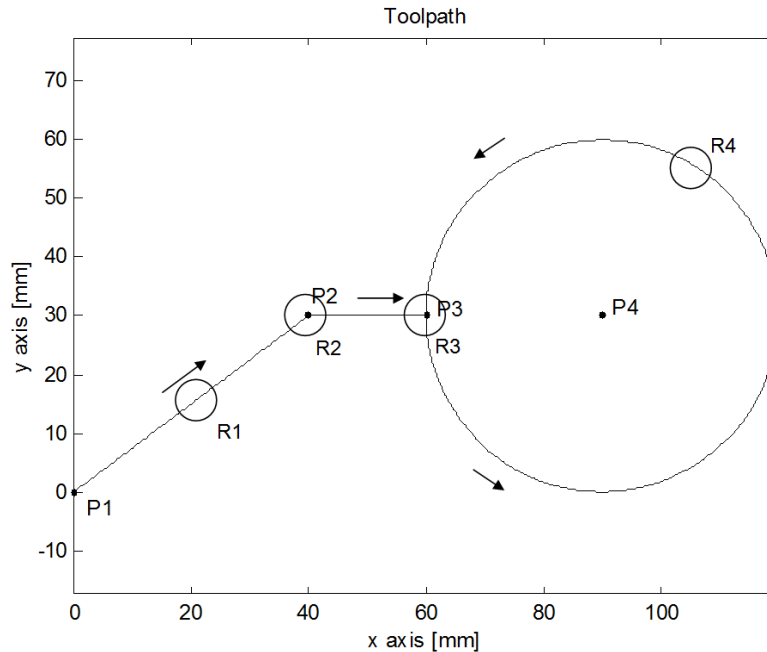

Figure 1: Reference toolpath to be used in contouring performance evaluation.
A sample toolpath is shown in Figure 1, comprising of two linear segments and a full circle. The coordinates of the segment end points are P1(0,0) [mm], P2(40,30) [mm], and P3(60,30) [mm]. The center of the circle is P4(90,30) [mm]. Read the entire handout before starting to work on the prelab.
For the line-circle trajectory (Figure 1), carry out the following analyses. Merge figures where possible, and keep corresponding plots together. Do not provide plots of the entire toolpath or axis commands since no useful details can be observed. Include zoomed-in sections, as requested in the following questions. You can write the names (and draw arrows) by pen on the printed lab report to mark different overlaid graphs.
**E.2.** Plot the simulated tool motion ( $x$  vs.  $y$ ) for the three cases of control system (part B.1) on top of the reference toolpath (all in one plot). Zoom into the critical regions R1, R2, R3, and R4 shown with circles in Figure 1. Approximately measure the largest value of the predicted contour error, and comment on the effect of bandwidth on contouring accuracy. Note that contouring error is defined for the toolpath (and not axes) and determined based on only the geometry (maximum deviation from the desired path). Unlike tracking error, contouring error is independent of time.